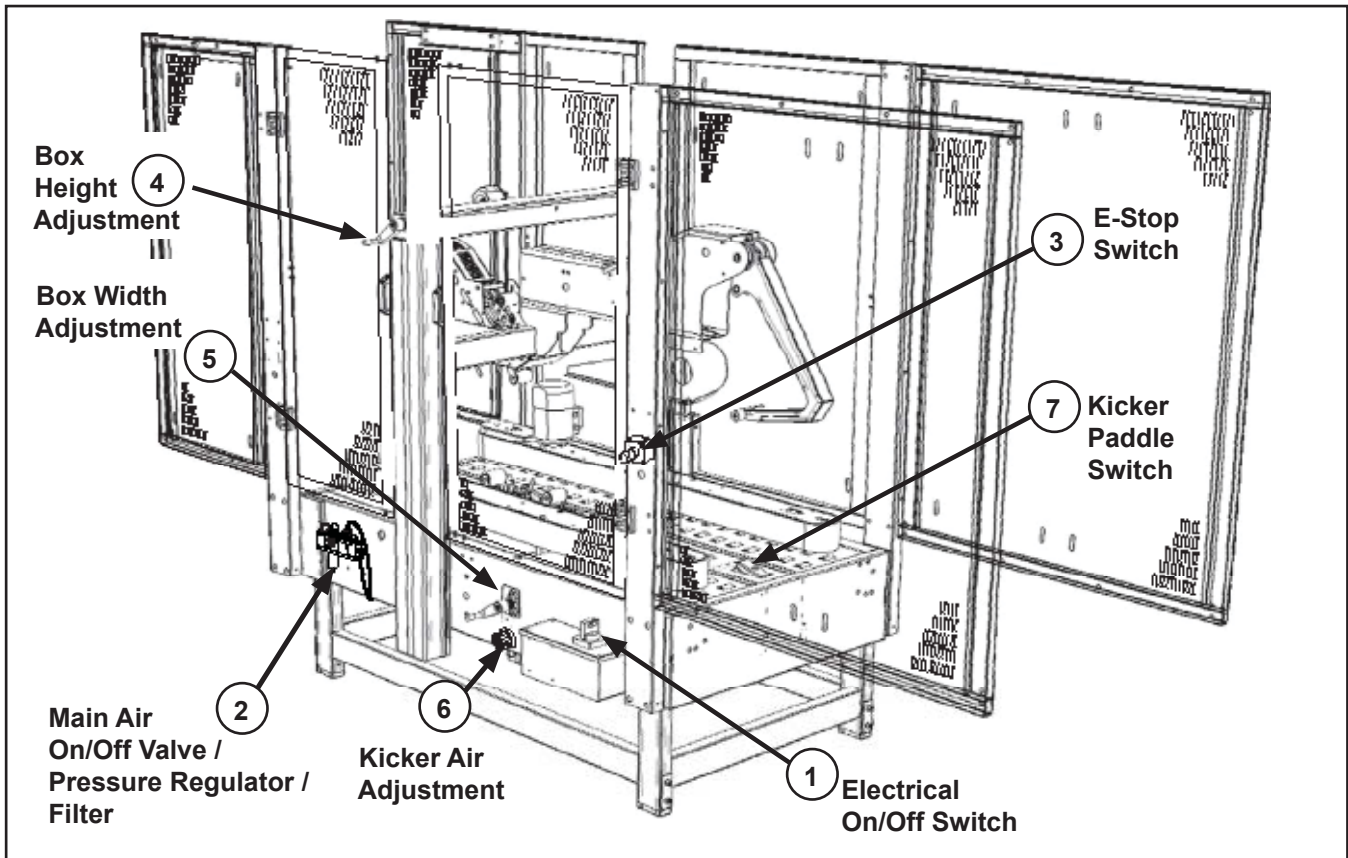

Figure 11-4 – Controls, Valves and Switches
2. Loosen the upper taping head clamp thumb screw (**Figure 11-4**).
(Figure 11-4)